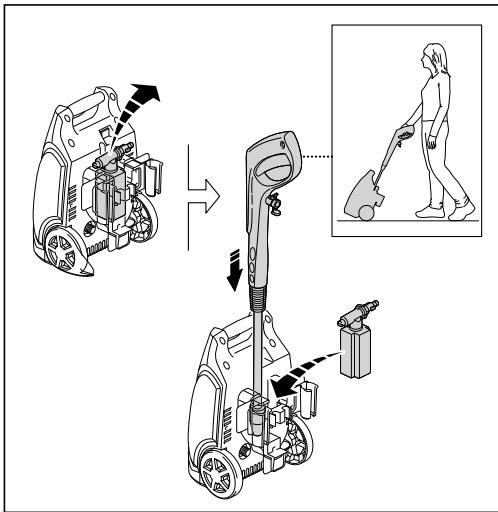

Fig. 4
- For a handle to wheel unit. Remove detergent bottle insert gun with adjustable spray nozzle to use as a handle and replace detergent bottle. (Fig. 4)